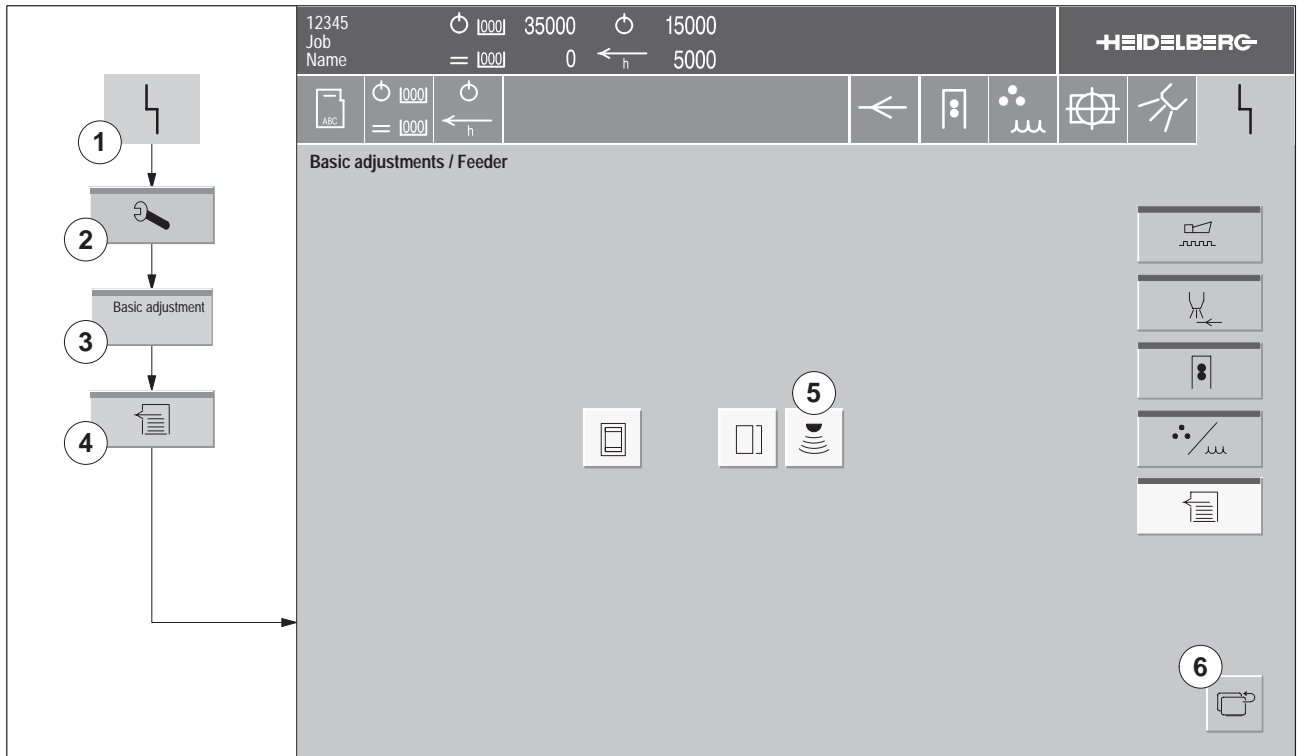

Fig. 10 Switching the ultrasonic double sheet detector on/off
1. Press the *Malfunction* button (Fig. 10/1). The **Malfunction** menu appears.
2. Press the *Service* button (Fig. 10/2). The **Service** menu appears.
3. Press the *Basic adjustments* button (Fig. 10/3). The menu **Basic settings/Start-up warning signal** appears.
4. Press the *Feeder* button (Fig. 10/4). The **Basic adjustments/Feeder** menu appears.
5. To switch the ultrasonic double sheet detector on/off: Press the button (Fig. 10/5). The button is highlighted when the ultrasonic double sheet detector is switched on.
6. To exit the menu: Press the *Return* button (Fig. 10/6) or a button in the banner line.